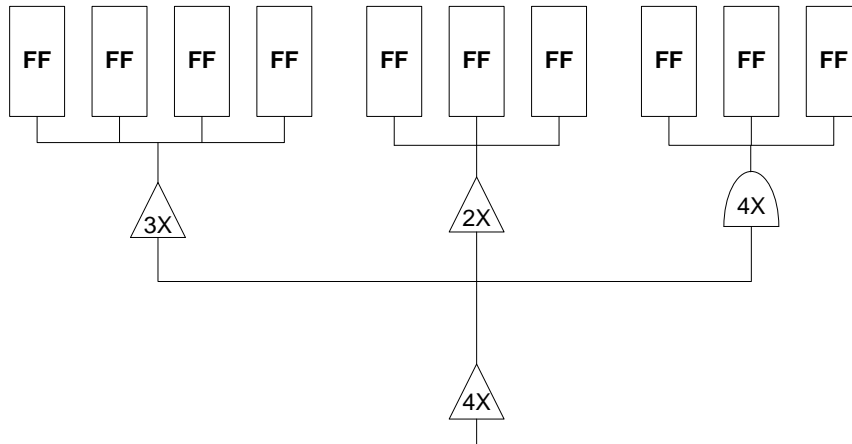

Figure 5.2: CTS incorporated circuit.
- (c) Figure 5.2 shows a clock tree synthesis (CTS) incorporated circuit. Discuss whether this circuit can be further optimized. State the implications of these methods.